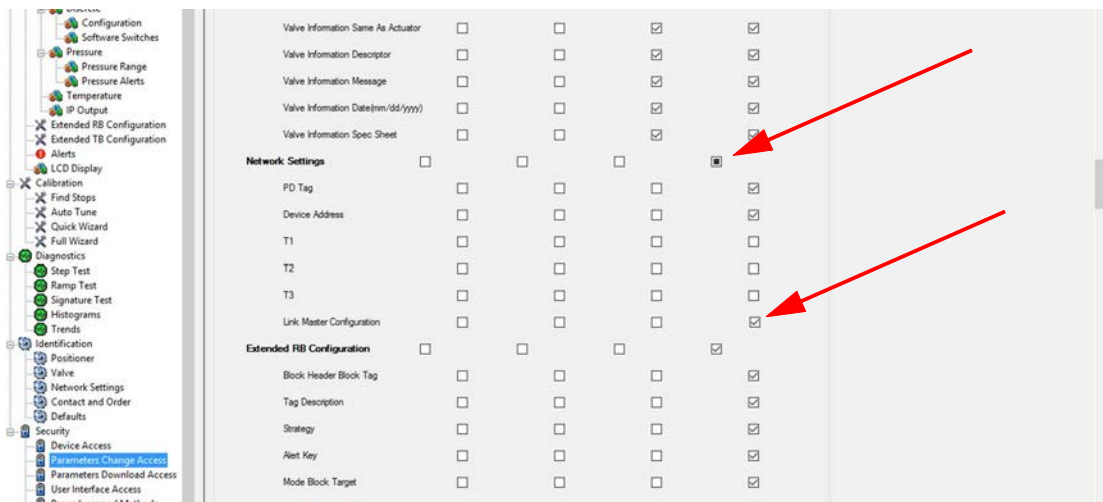

Figure 174 – Parameter Change Access
5. Select **Security > Parameter Change Access** and Figure 174 appears.